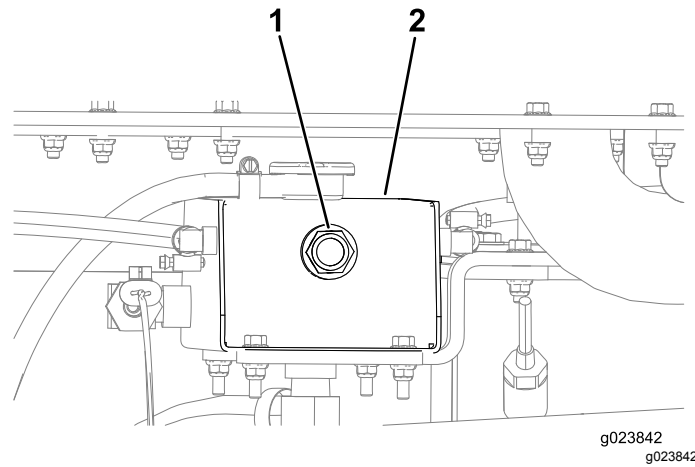

Figure 110
4. Check the coolant level by looking at the sight gauge at the end of the radiator tank (Figure 110).